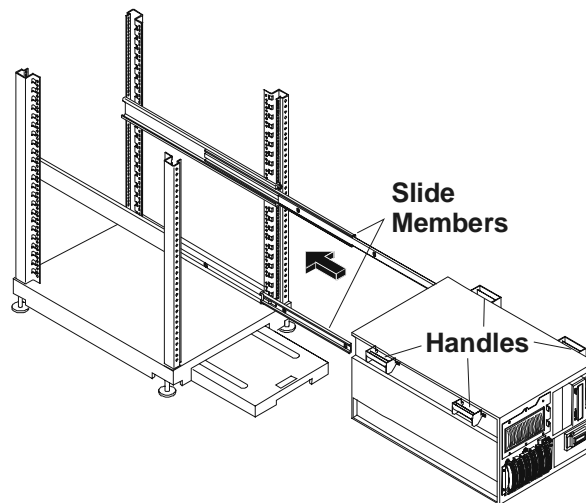

Figure 8-10. Mounting the HP NetServer on the Slides
5. Lift the HP NetServer by the handles until the handles are above the extended slide members (see Figure 8-10).